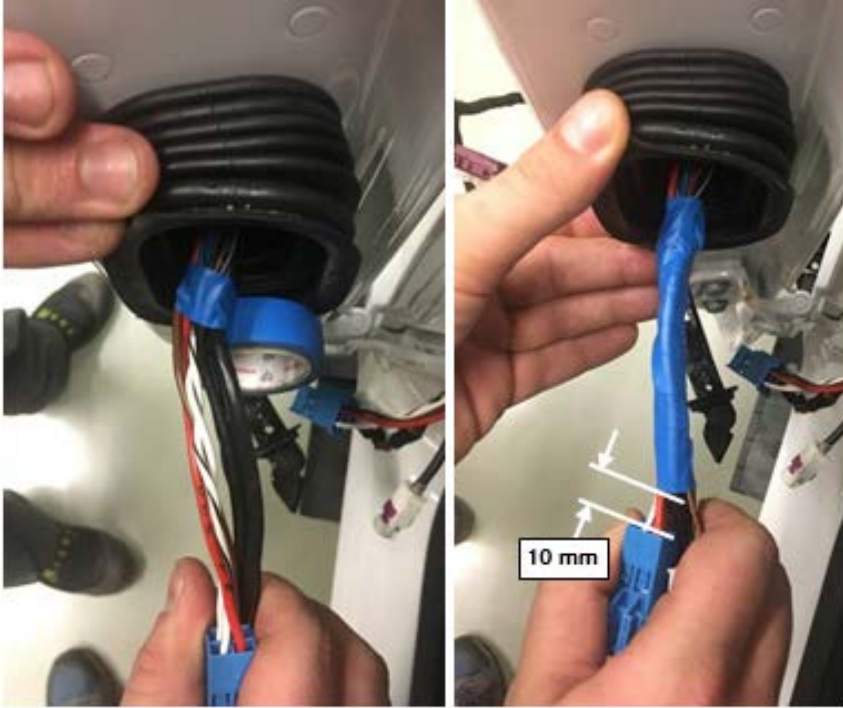

Figure 7
3. Wrap the wiring harness coming out of the door from the compressed grommet to approximately 10 mm in front of the plugs with fabric tape. **(figure 7)**